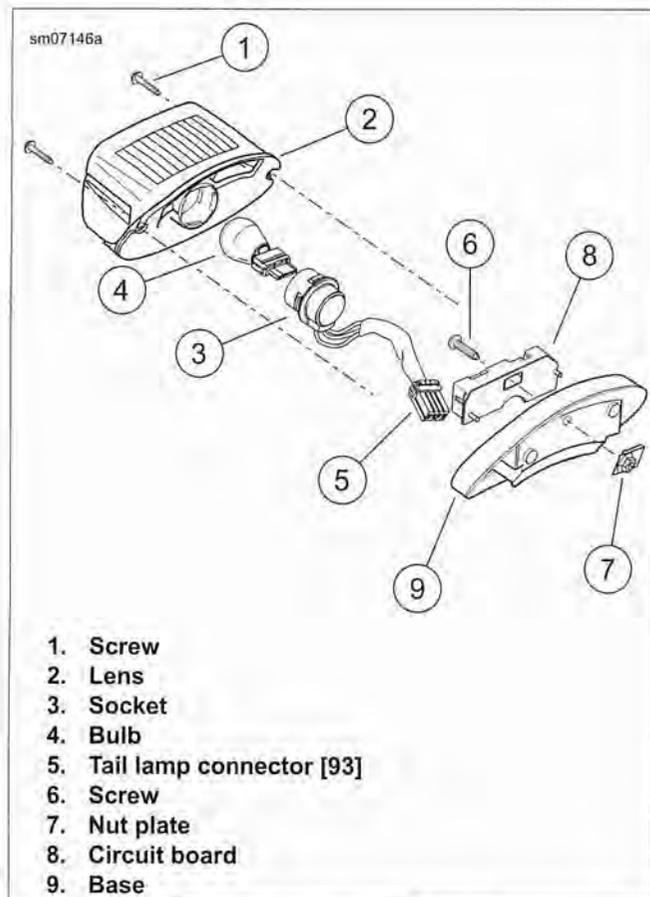
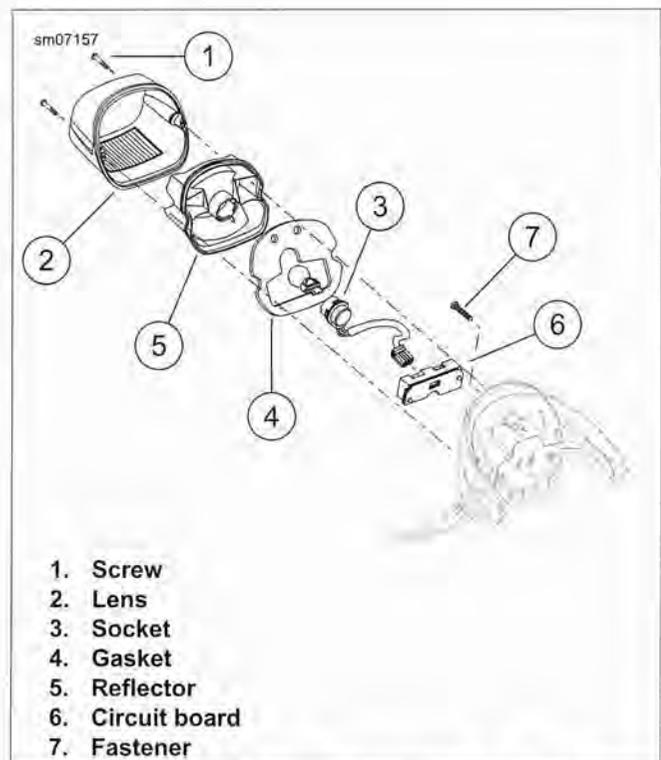
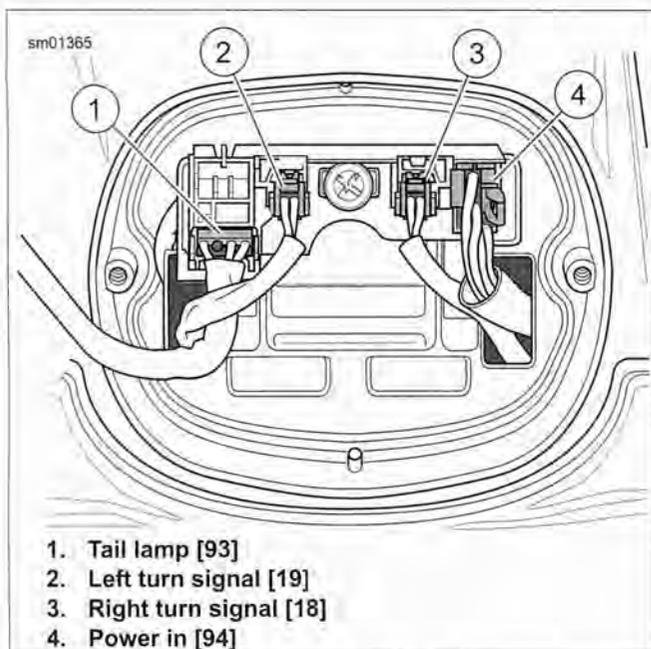

Figure 6-55. Tail Lamp Assembly: XL 883R/L and XL 1200L
Figure 6-56. Tail Lamp Assembly: XR 1200X
Figure 6-57. Tail Lamp Base Connectors
2. See Figure 6-55 or Figure 6-56. Remove two screws (1) and lens (2) from base (9).
3. See Figure 6-57. Press locking tab and remove 4-Pin multilock connector [93] (1) from circuit board.
4. Using a terminal pick, press locking tabs and remove right [18] (3) and left [19] (2) two 2-Pin turn signal connectors and 6-Pin Power In connector [94] (4) from the circuit board.
5. **XL Models except 1200C/CP:** See Figure 6-55. Remove base as follows:
- a. Remove screw (6) from nut plate (7).
- b. Remove circuit board (8) from base.
- c. Remove base (9) from rear fender.